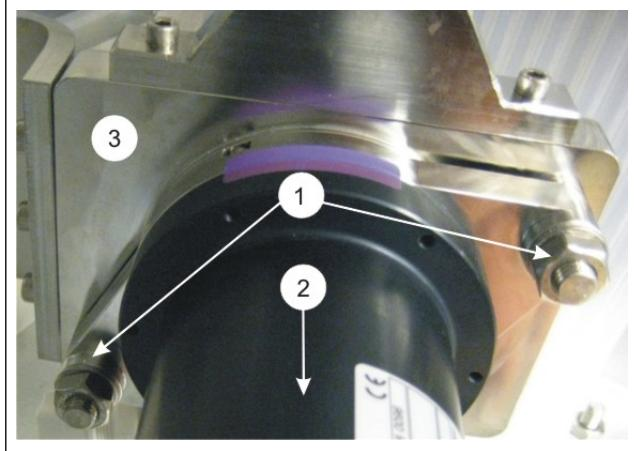

Fig. 10. Cleaning the Fiber-Shive measurement unit optics.
2. Open the optics fastening nuts (Fig. 10, part 1).